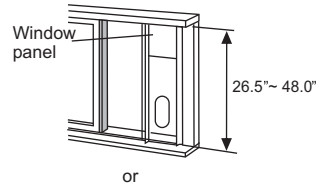

Fig. 15
2. Attach the window slider kit to the window stool. Adjust the length of the window slider kit according to the width of window, shorten the adjustable window kit if the width of window is less than 26.5 inches. Open the window sash and place the window slider kit on the window stool. See Fig. 15.